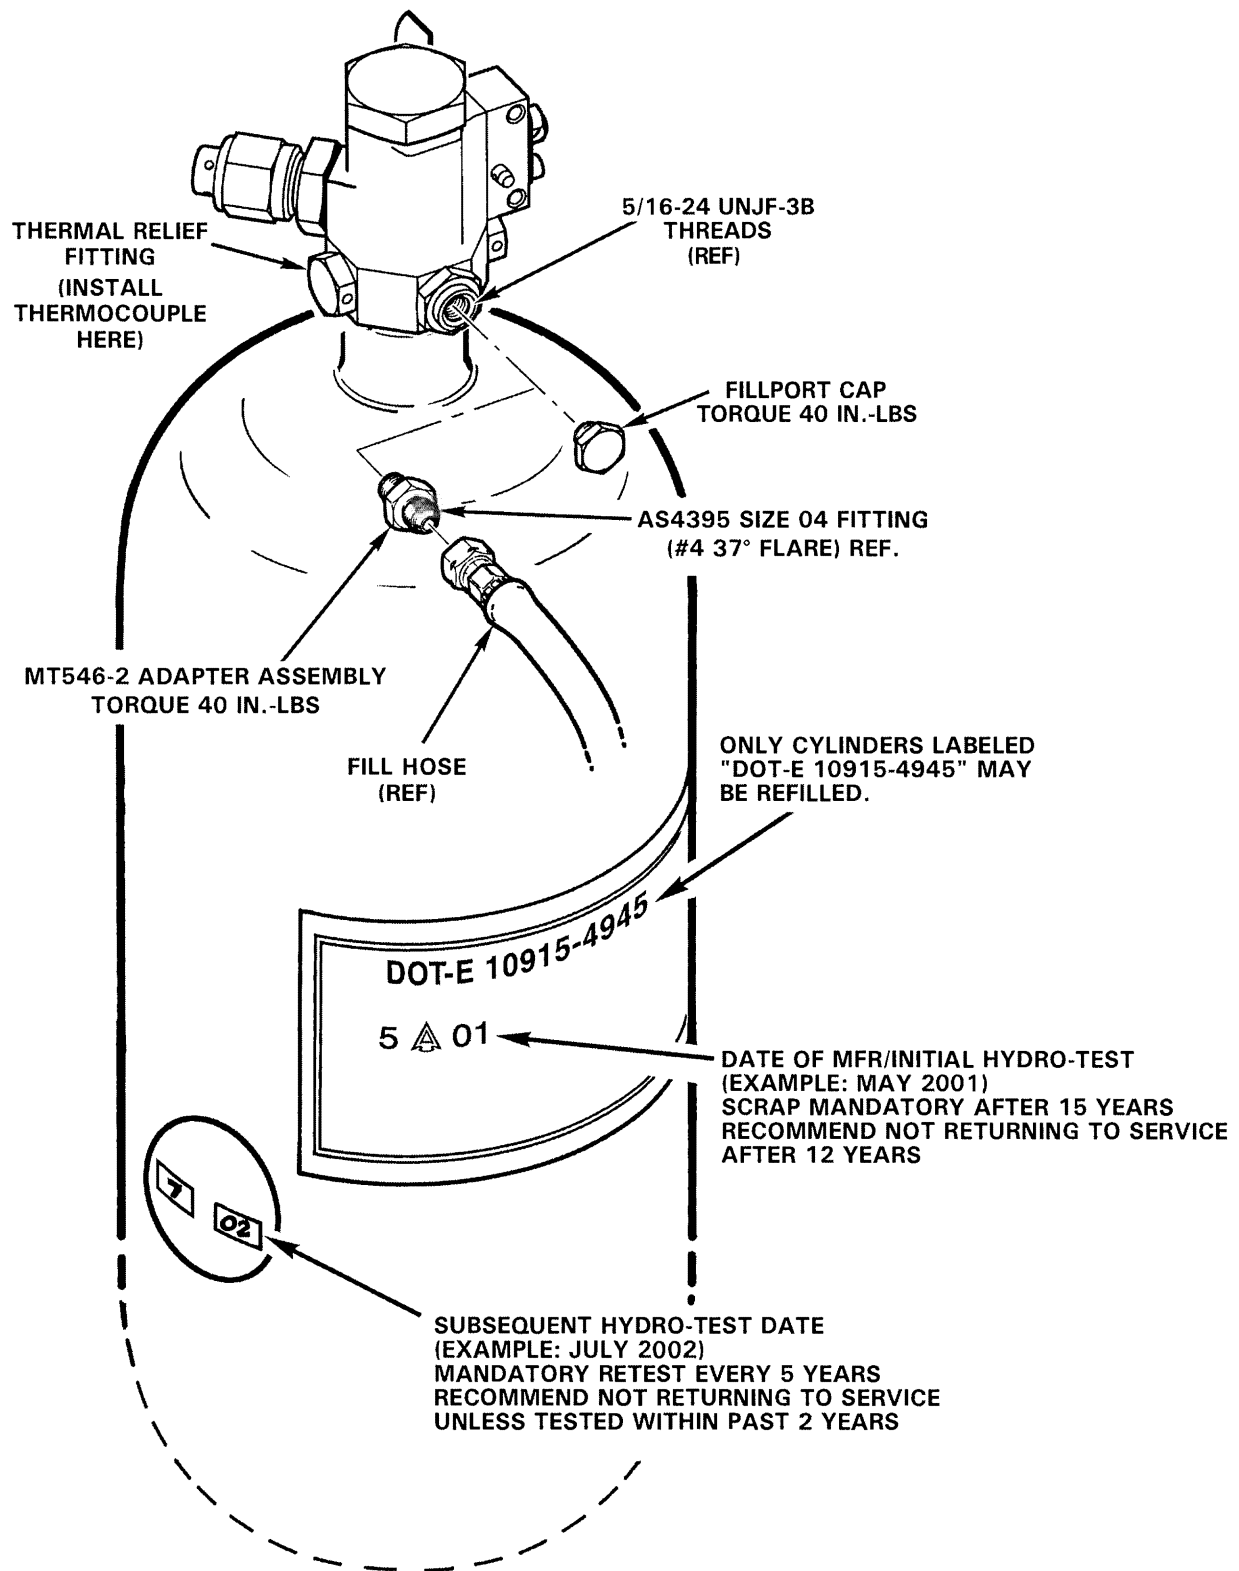

FIGURE 5-6 FILLING PRESSURE CYLINDER
Cylinder contents are under extreme pressure. Install locking pin in pressure cylinder valve (see Figure 5-6) when working in forward left baggage compartment, during cylinder removal or installation, and when working on pop-out floats or inflation hoses. **Remove locking pin when work is completed.**
5.665 Filling Pressure Cylinder (See Figure 5-6)**WARNING**
**VIEW A-A FROM FIGURE 5-6
Cylinder contents are under extreme pressure. Install locking pin in pressure cylinder valve (see Figure 5-6) when working in forward left baggage compartment, during cylinder removal or installation, and when working on pop-out floats or inflation hoses. Remove locking pin when work is completed.